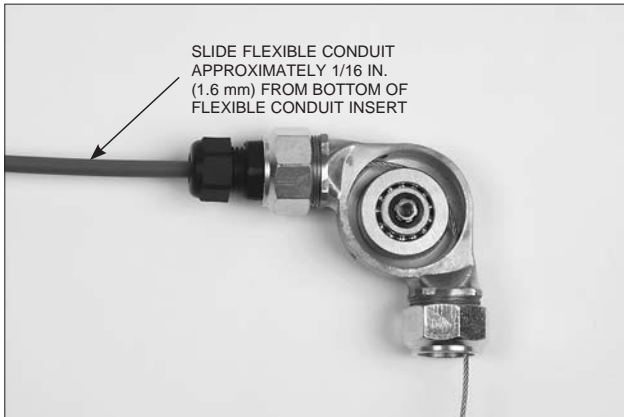

FIGURE 5-68
- Slide the flexible conduit into the strain relief until it is approximately 1/16 in. (1.6 mm) from the bottom of the flexible conduit insert. See Figure 5-68.